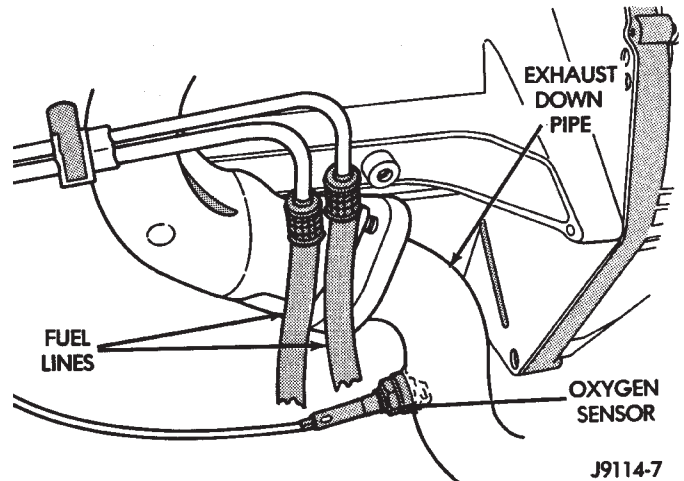
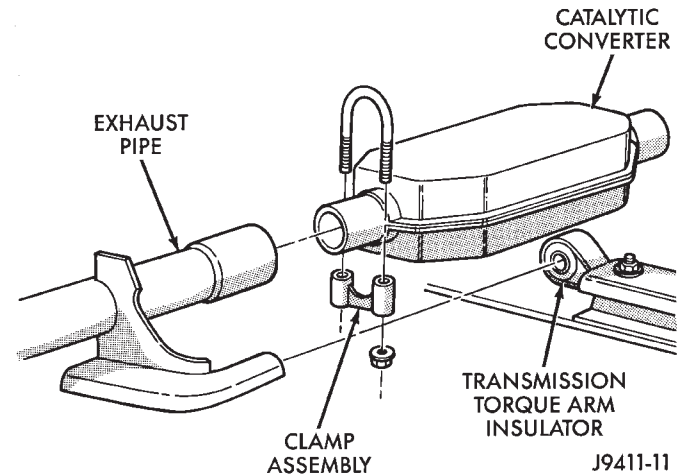

Fig. 2 Oxygen Sensor
Fig. 5 Exhaust Pipe-to-Catalytic Converter Connection—YJ Vehicles
- (3) Remove the oxygen sensor from the exhaust pipe (Fig. 2).
- (4) Disconnect the exhaust pipe from the engine exhaust manifold. Discard the seal (4.0L engine, only).
(3) Remove the oxygen sensor from the exhaust pipe (Fig. 2).
(4) Disconnect the exhaust pipe from the engine exhaust manifold.
(5) Disconnect the exhaust pipe from the catalytic converter and slide the pipe out of the transmission torque arm insulator (Fig. 5). Remove the exhaust pipe.
(1) Slide the exhaust pipe into the transmission torque arm insulator and onto the catalytic converter (Fig. 5).
(2) Clean the mating surface of the engine exhaust manifold flange.
(3) Connect the exhaust pipe to the engine exhaust manifold using new nuts. **DO NOT** tighten the nuts.
(4) Align the exhaust pipe.
(5) Use a new clamp at the exhaust pipe to catalytic converter connection and tighten the nuts to 61 N·m (45 ft. lbs.) torque.
(6) Tighten the exhaust pipe-to-engine exhaust manifold nuts to 31 N·m (23 ft. lbs.) torque.
(7) Coat the oxygen sensor with anti-seize compound. Install the sensor and tighten the nut to 48 N·m (35 ft. lbs.) torque.
(8) Lower the vehicle.
(9) Start the engine and inspect for exhaust leaks and exhaust system contact with the body panels. Adjust the alignment, if needed.